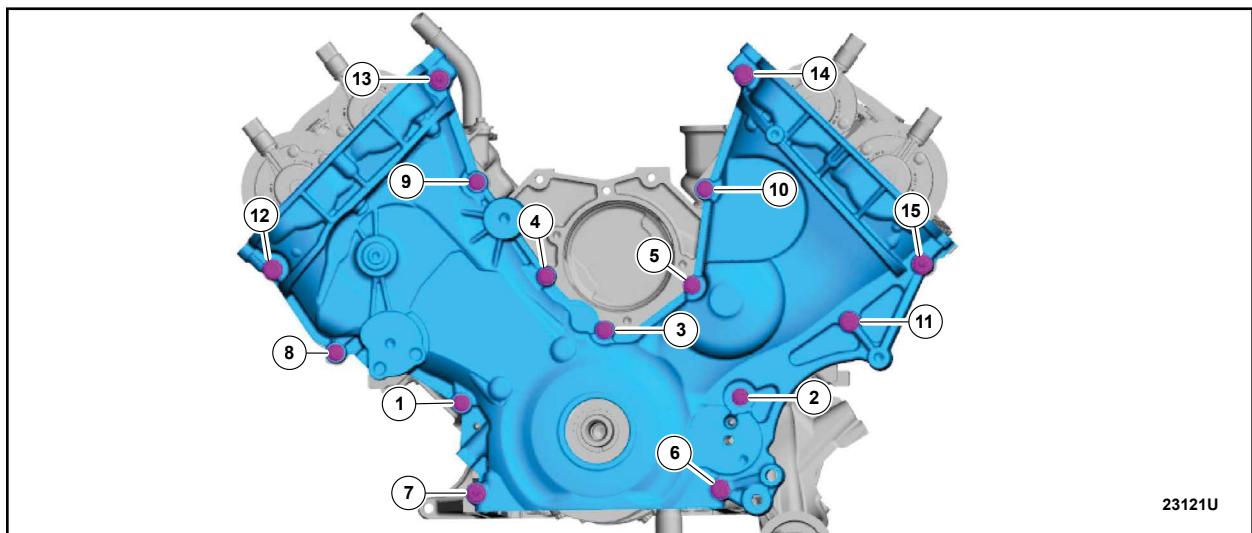

FIGURE 18
32. Install the *new* engine front cover and the fasteners. See Figure 18.